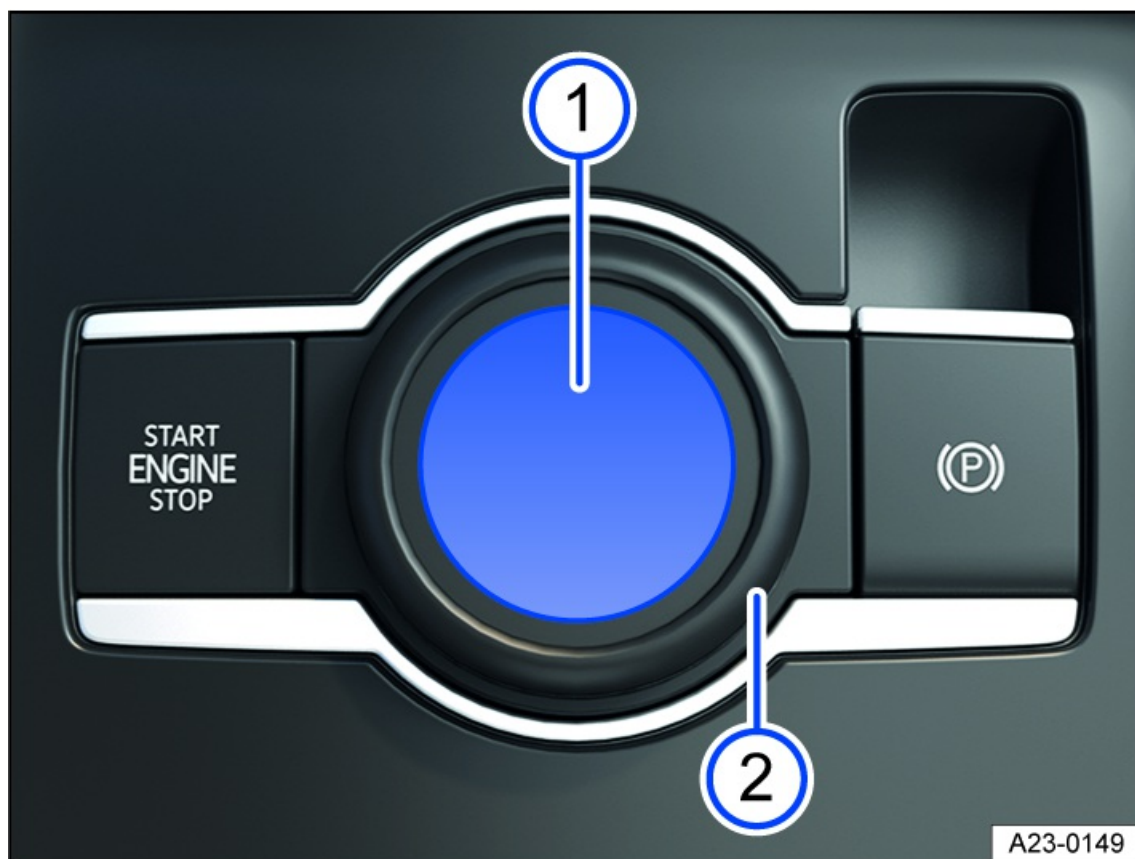

Fig. 88 In the center console: Control for Driving Mode Selection.
1. Press the control *fig. 88*.
3. Turn the dial *fig. 88* until the desired driving mode is selected.